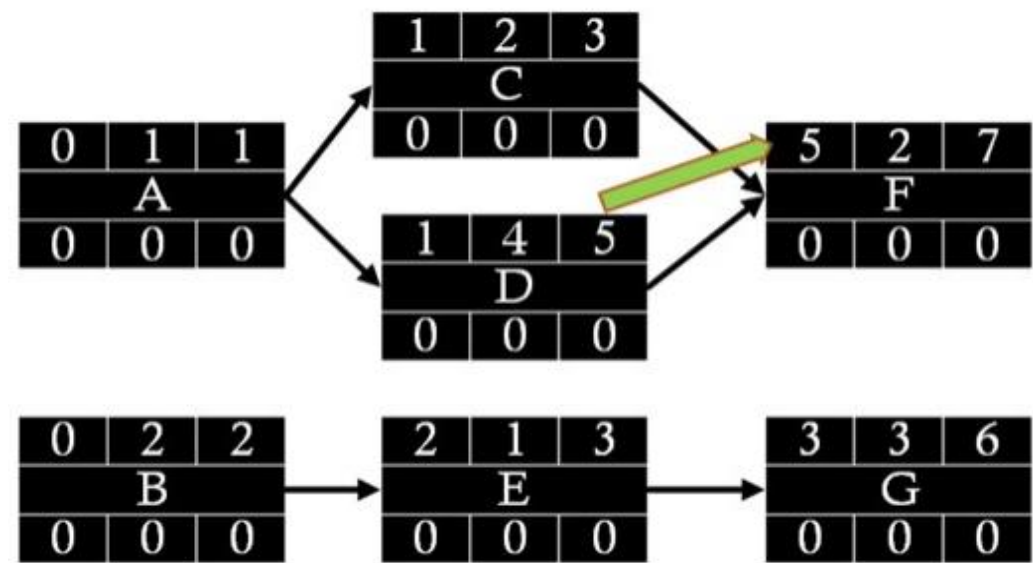

Figure 15: Passing predecessor ES times at merge points
At a merge point, as is the case when C and D merge at F, we pass the highest EF time of predecessors (C and D) to the successor activity (F) (Figure 15). EF time of D becomes ES time for F.